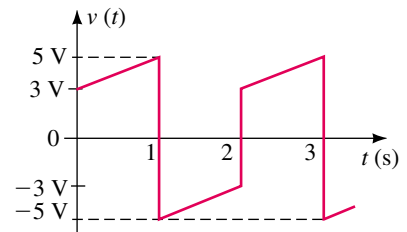

FIGURE 25-62
17. The waveform of Figure 25-62 is made up of two fundamental waveforms from Table 25-1. Sketch the two waveforms and determine the Fourier series of the composite wave.